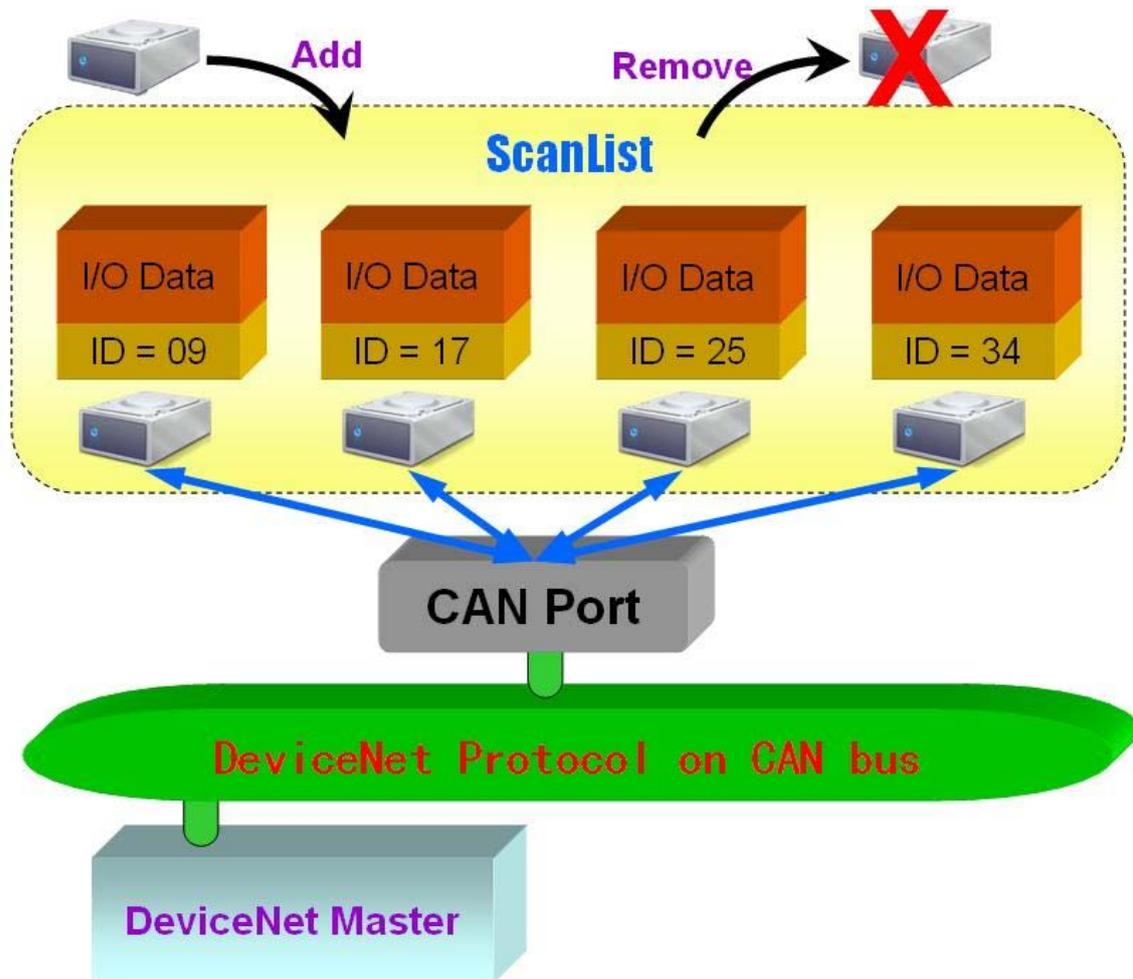

Figure 1.5.2 ScanList data structure
The PISO-DNS100(U) firmware has a “ScanList” to store the virtual slave devices information. After power off, the information still exists in the EEPROM. When the users turn on the PC next time, the “ScanList” would be loaded from the EEPROM. The users can easily use the DLL functions to configure it, including adding devices or removing devices. It works as shown in Figure 1.5.2. There is more information about the library functions in chapter 5.